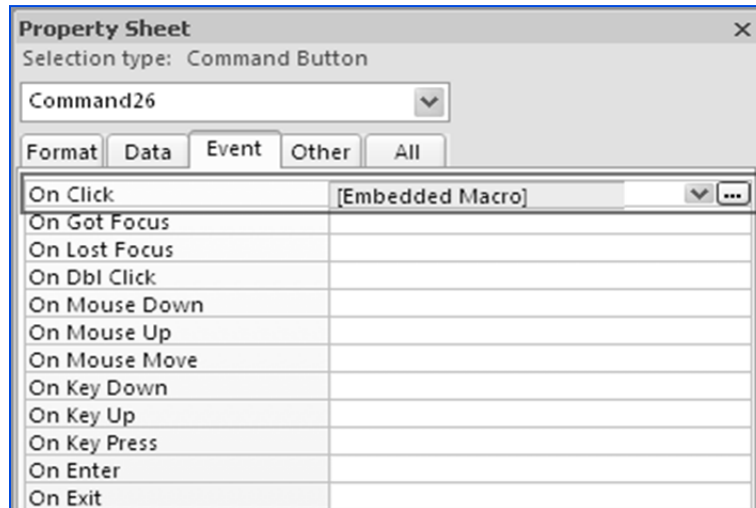

Fig. 4.2.26: Property Sheet
9. The created macro gets embedded in the *Property* window and is shown in the *On Click* property. The *Property Sheet* appears, as shown in Fig. 4.2.26.